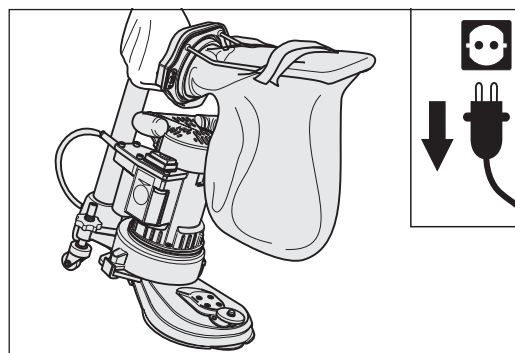

Fig. 34 Carry the FLIP® by the pipe socket.
- 3 You can easily carry the machine using the pipe socket (fig. 34).